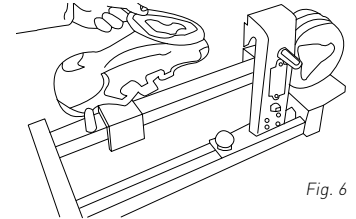

Fig. 6
4. Place the protractor disc on the cleat **(Fig. 6)**